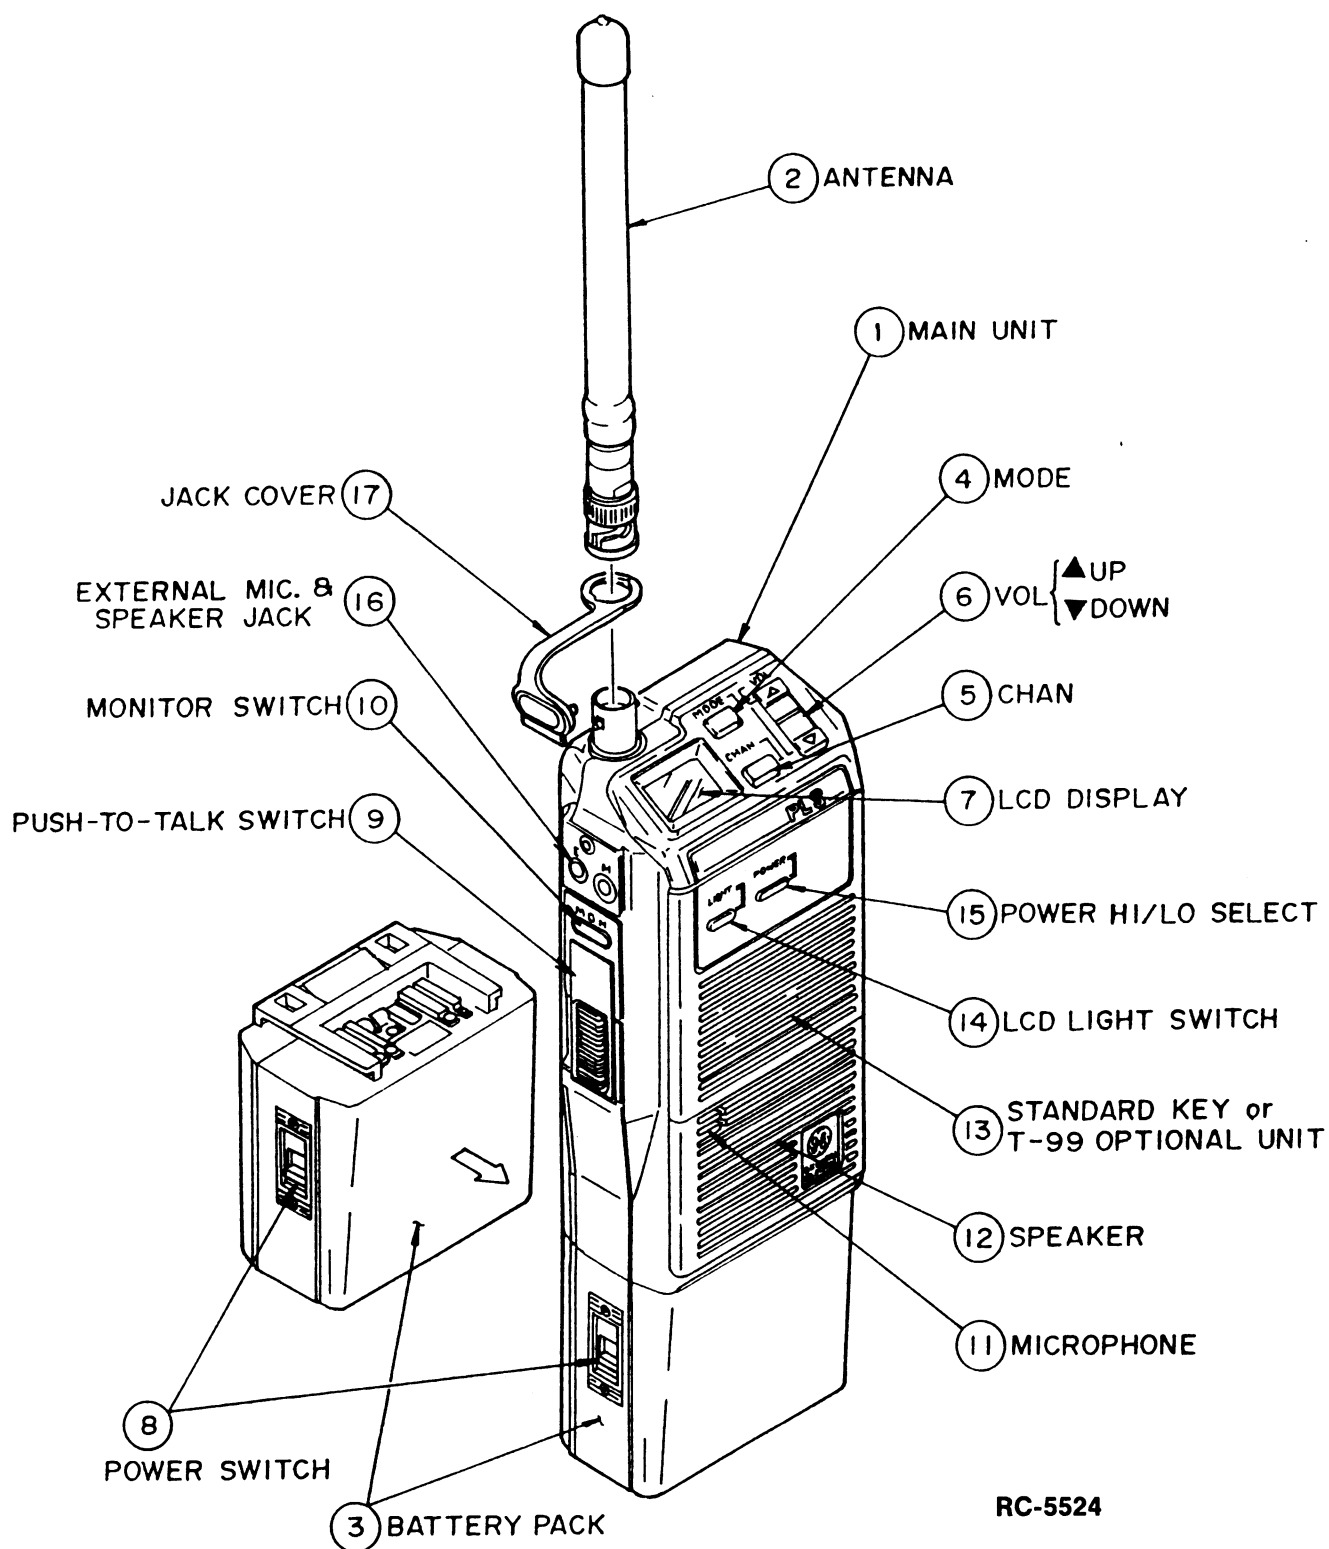

FIGURE 1 - STANDARD PLS OPERATING CONTROLS AND ACCESSORIES
- **Push Button Controls Only:** All control functions on the radio, with the exception of the power ON/OFF switch, are operated through push button controls on the top and sides of the radio. The power ON/OFF switch is part of the battery pack (see Figures 1 & 2).
Assemble these parts into one unit according to the following procedure and as shown in Figure 1 - PLS Operating Controls and Accessories.
1. Screw the antenna ② in its receptacle. A clockwise turn will connect the antenna, while a counterclockwise turn will remove it.
2. Slide the battery pack along the bottom of the PLS radio from the arrow marked direction shown in Figure 1 until the battery pack locks into place.
Operating Procedure (Refer to Figures 1 and 2)